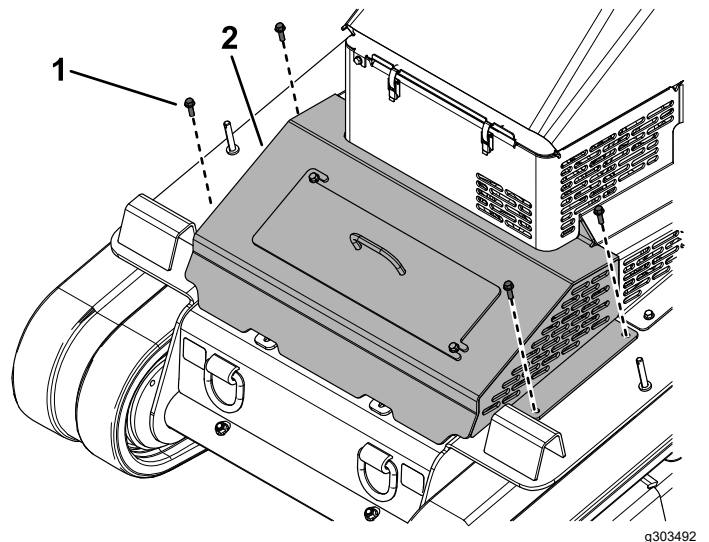

Figure 41
2. Remove the 4 bolts securing the cover assembly to the machine (Figure 41).
1. Bolt (4)
3. Remove the cover assembly (Figure 41).